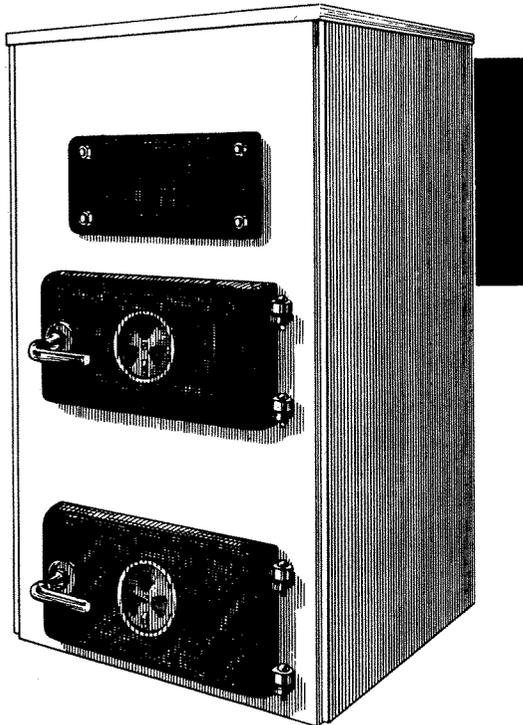

Fig. 88. Multitherm boiler.
27. **S/A Energy Division** (distributor), 730 Midtown Plaza, Syracuse, NY 13210. The Multitherm (Fig. 88) is a multifuel furnace that converts from wood to coal, oil, or gas. The S/A Anthratherm is also available for automatic coal operation. The Multitherm boiler is of cast-iron and steel construction with cast-iron grates. Automatic temperature controls can be regulated for hot-water or low-pressure steam systems. Built to ASME standards with optional domestic hot-water coil.